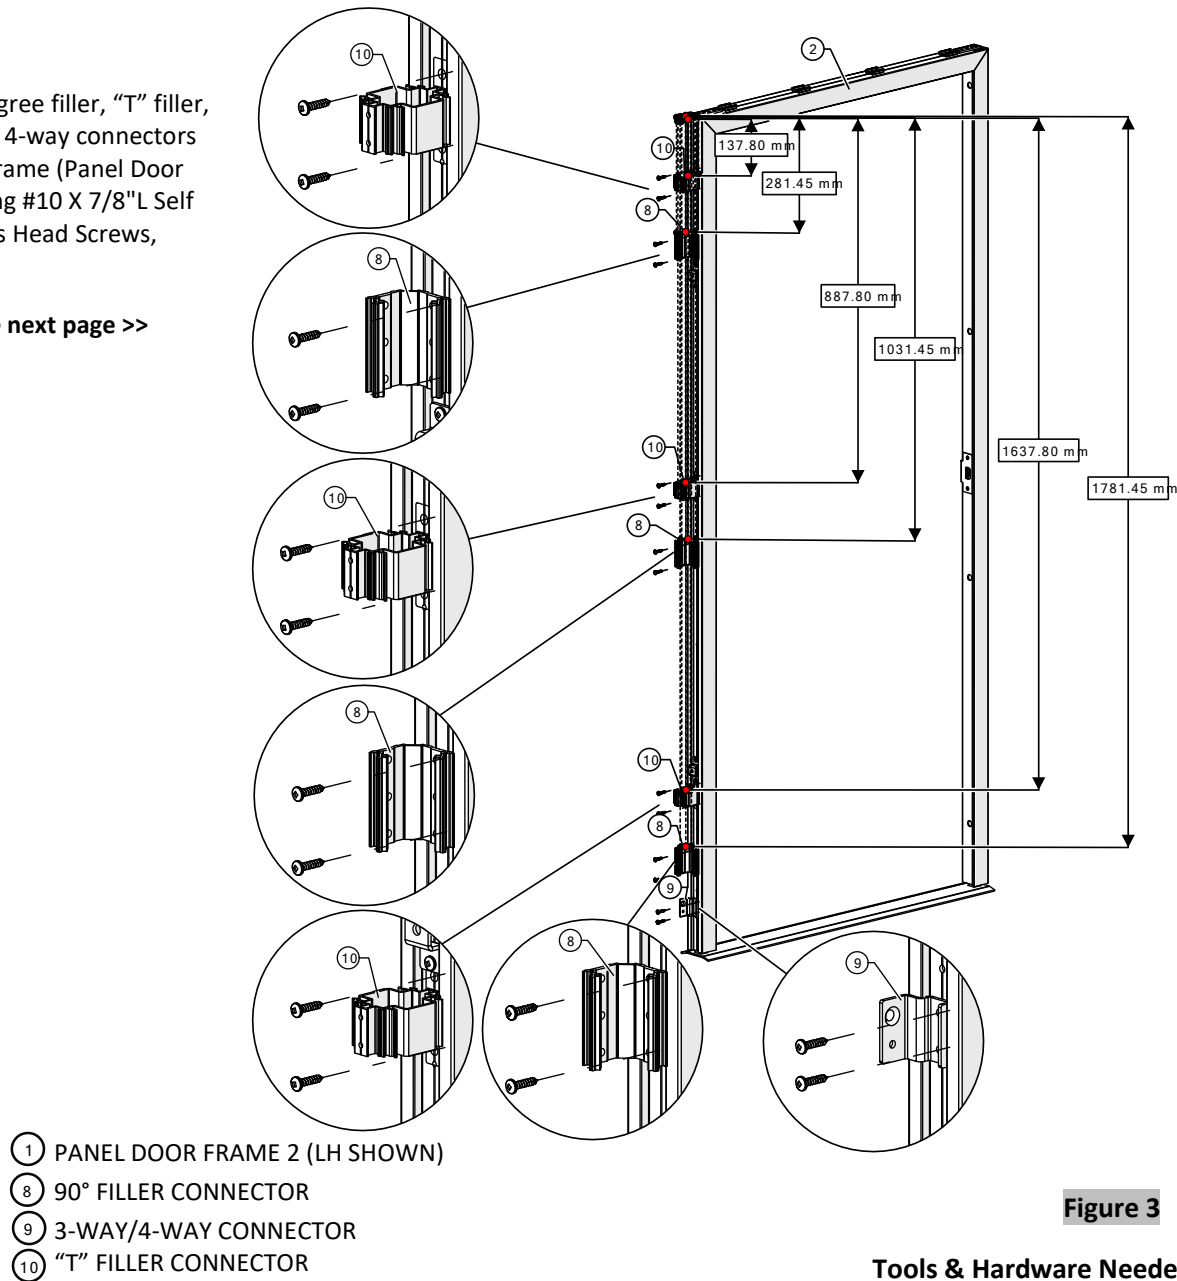

Figure 3
3. Attach 90-degree filler, “T” filler, and 3-way or 4-way connectors to the door frame (Panel Door Frame 2) using #10 X 7/8" L Self Tapping Truss Head Screws, (Figure 3).